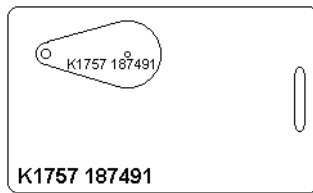

Figure 10-44: Proximity Card/Key Tag Number
- Locate the Keri/Wiegand Card Number Range field. Click in the **Starting From** field. Enter the card number for the first card in the range of cards to be enrolled (the lowest number). The card number is the second set of digits printed on the body of the card (in Figure 10-44 on page 31 of this section, it is the digits corresponding to 187491). The card number will be more than 4 digits long. For example, the entire number of the first card is K1757 187491; the card number is **187491**, 6 digits long.